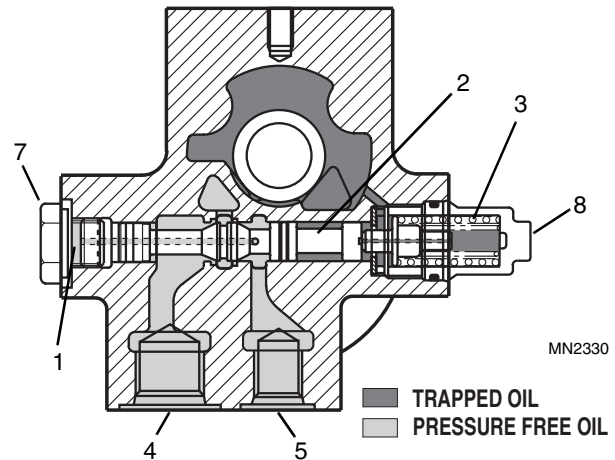

Figure 5-6 Pressure Priority Valve - Spool In Control
Pump pressure acting, on the non-spring side (Fig. 5-6, 1) of the control spool (2), will move the spool toward the opposite side of the housing, and up against the load spring (3). The spool moves across until it reaches a point where the flow to the charge port is controlled to maintain the required pressure. Excess flow is diverted to the main control valve through port (4). As pressure varies in this line, the spool moves to throttle the flow into the charge port line through port (5) to maintain the required charge pressure.
4. Remove the plug (Fig. 5-6, 7) on the non-spring end of the housing and the load spring cap (8) on the opposite end of the housing. Remove and discard the o-rings from the plug and cap.
8. Install new o-rings on plug (Fig. 5-6, 7) and cap (8), and install on the valve housing. Tighten securely.